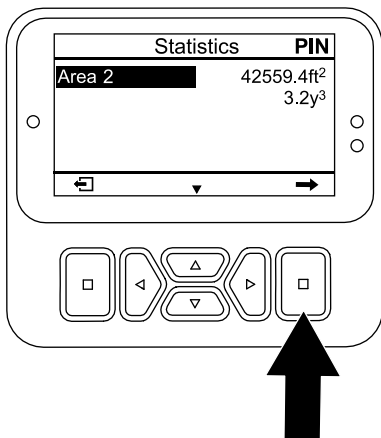

Figure 100
- In the STATISTICS screen, press the down button until the AREA 2 option is selected (Figure 100).